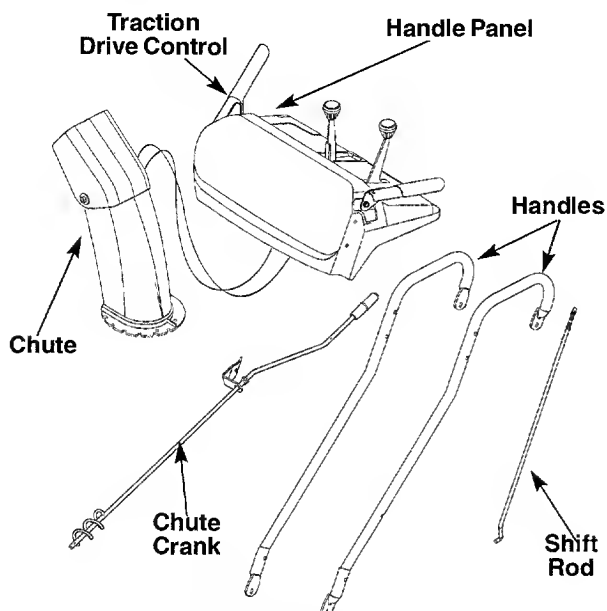

FIGURE 1: Loose Parts
- Remove loose parts. Refer to figure 1.